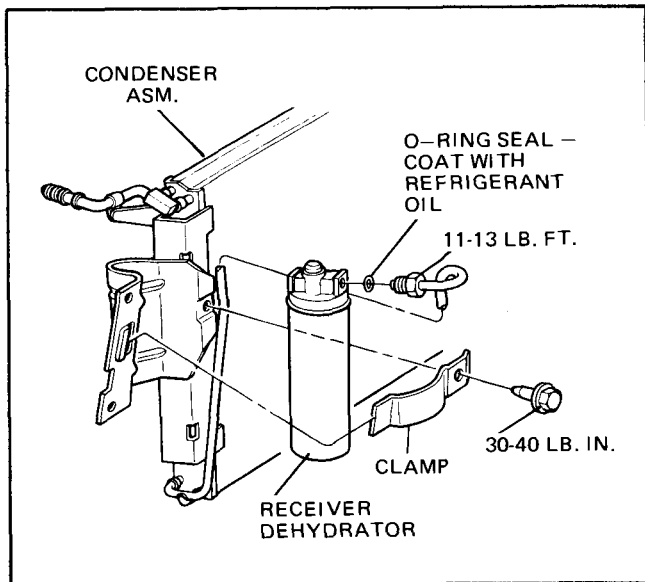

Fig. 1A-113 Receiver Dehydrator Mounting - A and G Series
6. Remove receiver (Fig. 1A-113).
3. Loosen bracket screw and remove receiver dehydrator assembly (Fig. 1A-114).